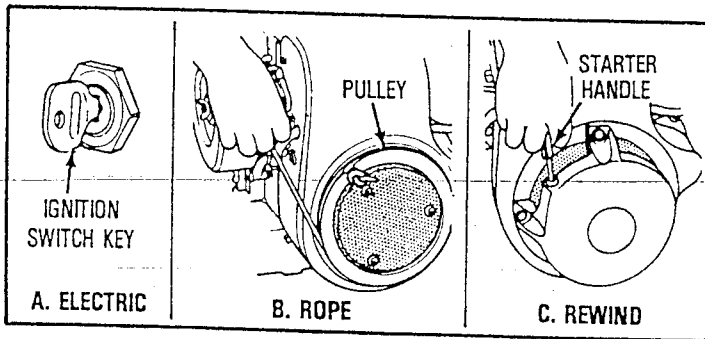

Figure 2
## A. ELECTRIC STARTER — 12 VOLT DC (see Figures 2 & 3)
1. Press starter button or turn IGNITION SWITCH KEY (see Figure 2) per equipment manufacturer's instructions to activate starter motor and crank engine.
## B. ROPE STARTER (see Figures 2 and 3)
**C. REWIND STARTER** (see Figures 2 and 3)
1. Grasp **STARTER HANDLE** (see Figure 2) and pull rope out, slowly, until it pulls slightly harder. Let rope rewind slowly.